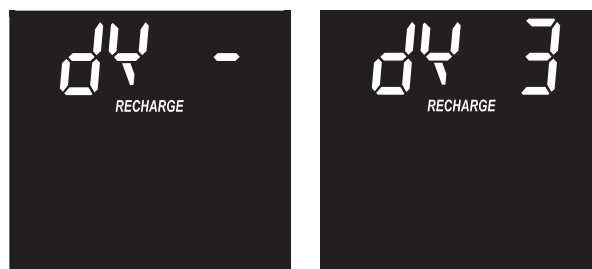

FIG. 27
2. Once in this display, press the PROGRAM button again and the display in Figure 27 is shown.